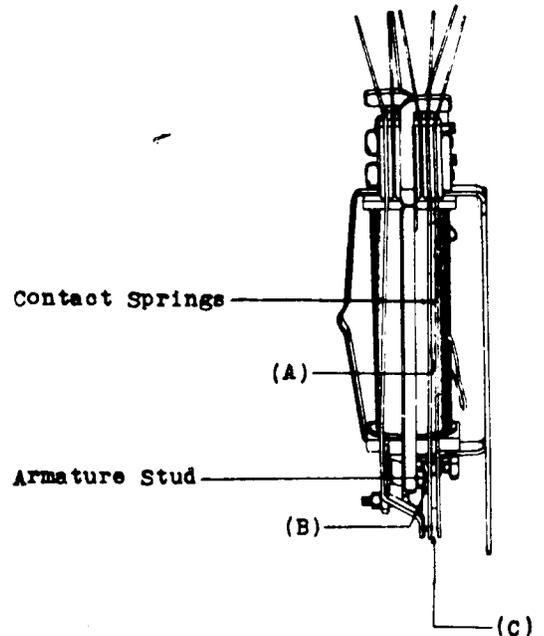

Fig. 8
2.13 Separation Between Springs - Fig. 8 (A)- There shall be a clearance between adjacent springs, whether in the operated or unoperated positions of the relay of Min. .008" Gauge by eye.
2.15 Stud Gap - Fig. 8 (B) -
2.16 Contact Separation - Fig. 8 (C) - The separation between any pair of contacts normally open or between any pair of contacts that are opened when the relay is operated shall be Min. .005" Use the No. 74-D gauge.